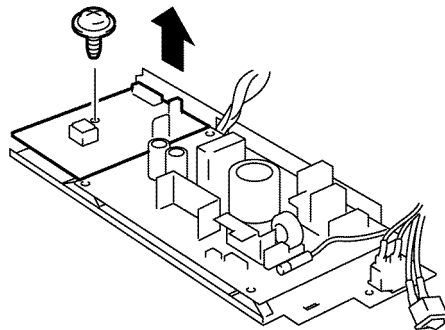

Figure 4
7. Remove one screw then the HVPS as shown in the figure 4.